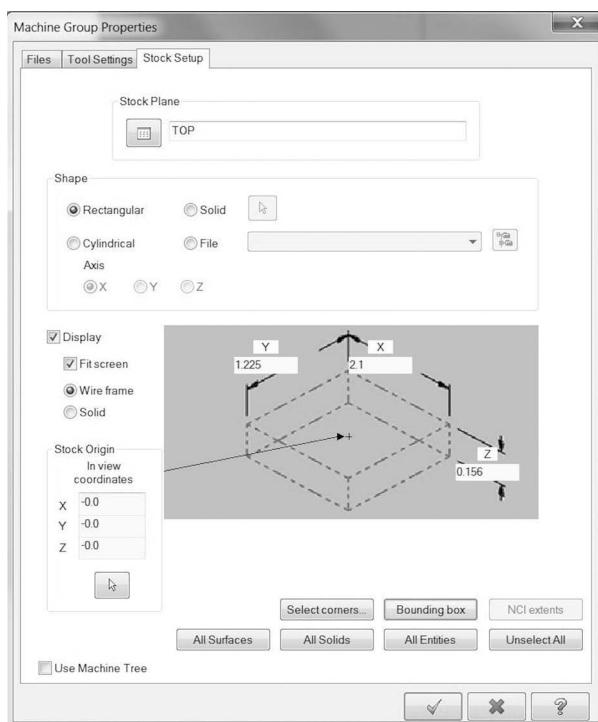

Figure 5-40 Mill Example
- In the operations manager, expand the Properties Mill-Default to expose Stock setup and left-click to open it. Complete the required information per the blank stock dimensions as in Figure 5-40.